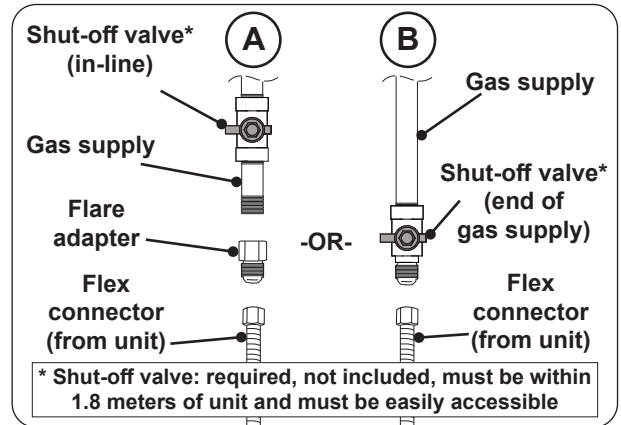

Fig. 21-1 Connecting to a gas line
- Install the flex connector (flare) to the gas supply using appropriate gas fittings (not included) (see Fig. 21-1, A). Tighten securely.
- Connect the flex connector (flare) to the shut-off valve using appropriate gas fittings (not included) (see Fig. 21-1, B). Tighten securely.